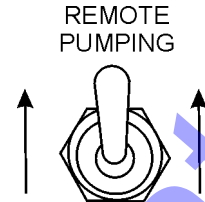

Figure 42. Pumping Control Switch Up Position (Remote Pumping)
3. Plug the remote cable (Figure 42) into the remote receptacle on the control panel. Tighten securely.
4. Place the pump control switch on the control panel (Figure 42) in the **up** position (remote pumping).